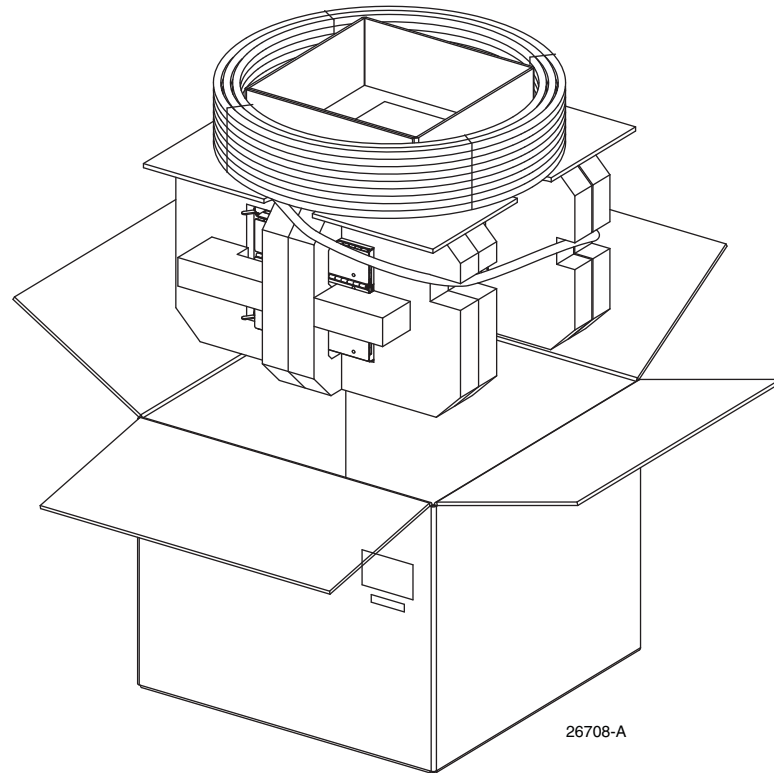

Figure 4. FTB in Carton
- b. If the FTB is not on a spool and was shipped in a carton, as shown in Figure 4: